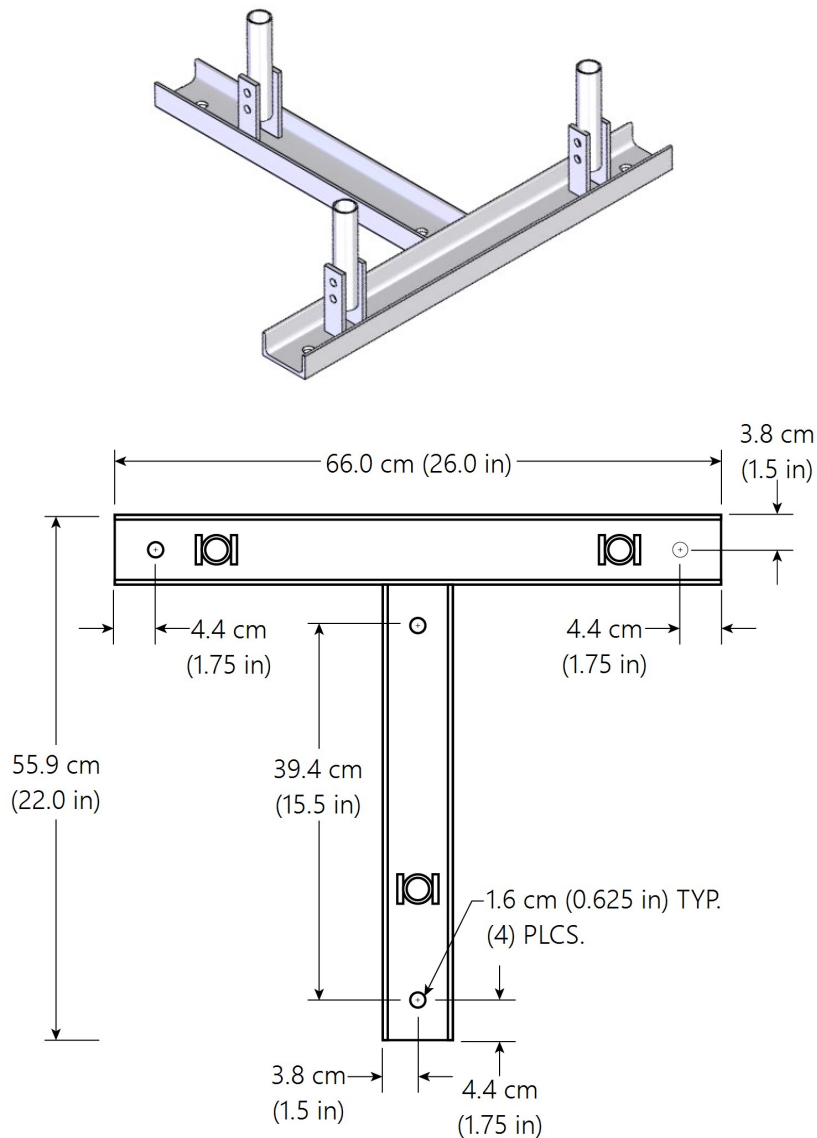
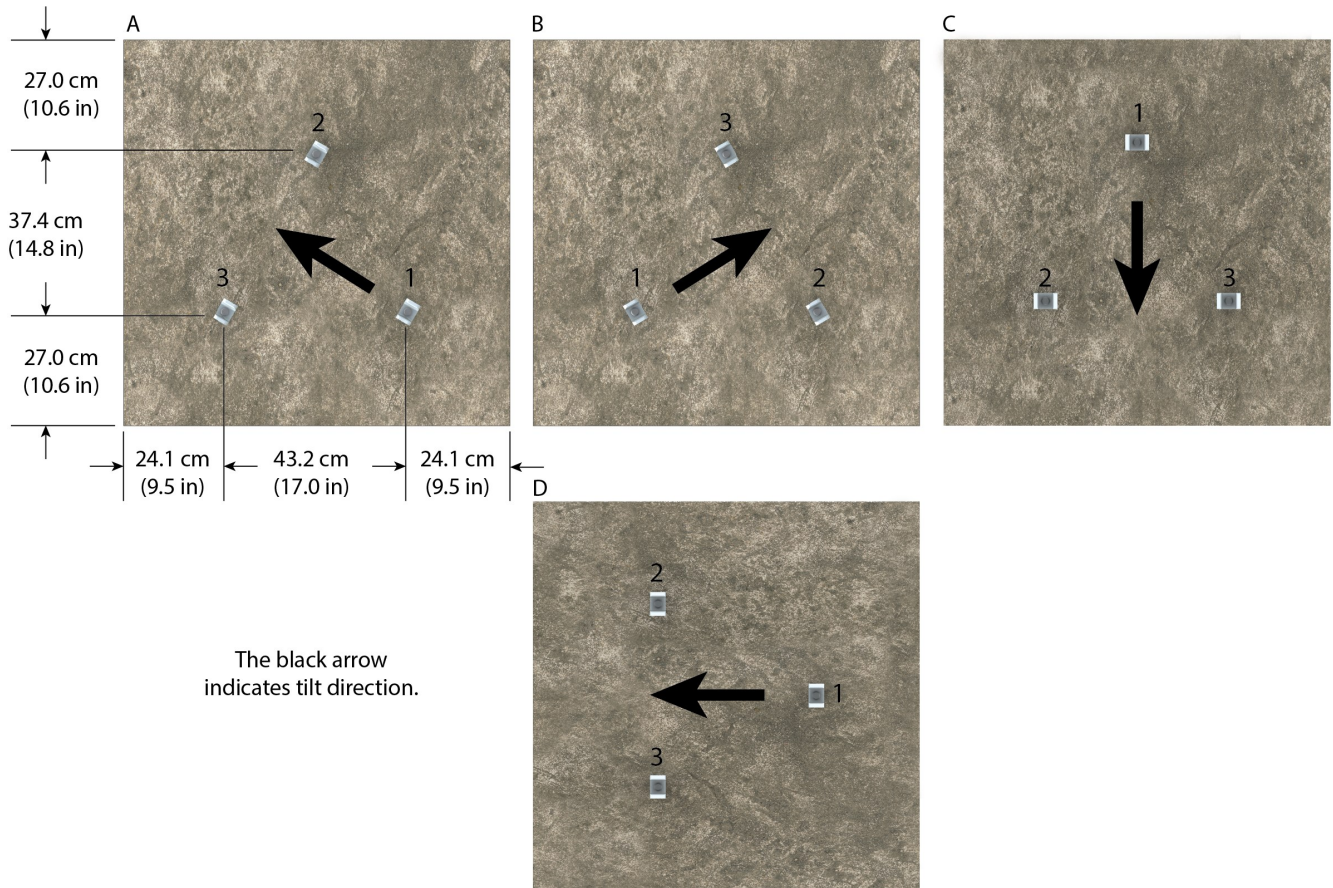

FIGURE 7-20. RFM18 base dimensions
FIGURE 7-27. Tower leg placement
Position the RFM18 on the surface where it will be installed. Make sure the hinge direction is correct and mark the locations of the four mounting holes. Refer to FIGURE 7-27 (p. 33) for possible tilt directions. FIGURE 7-20 (p. 26) shows the RFM18 dimensions and hole spacing. Install a user-supplied anchor in each hole.
1. Use the paper template found in UTBASE paper template (p. 51) to identify the proper locations for the three mounting holes based on 43.2 cm (17 in) center-to-center spacing. Refer to FIGURE 7-27 (p. 33) for tower leg placement options.
4. Center the bottom tower section with the base attached in the hole. FIGURE 7-27 (p. 33) shows four possible arrangements for the bottom tower section. Images A and B show the recommended placement when a solar panel is to be mounted to the tower. This positioning allows a solar panel to be firmly attached to two tower legs while providing easy access to sensors at the top of the tower. Image C shows the bottom tower section positioned to allow the tower to tilt toward the equator. Image D is used when it is necessary to mount a crossarm running perpendicular to the equator for precision pyranometer measurements.